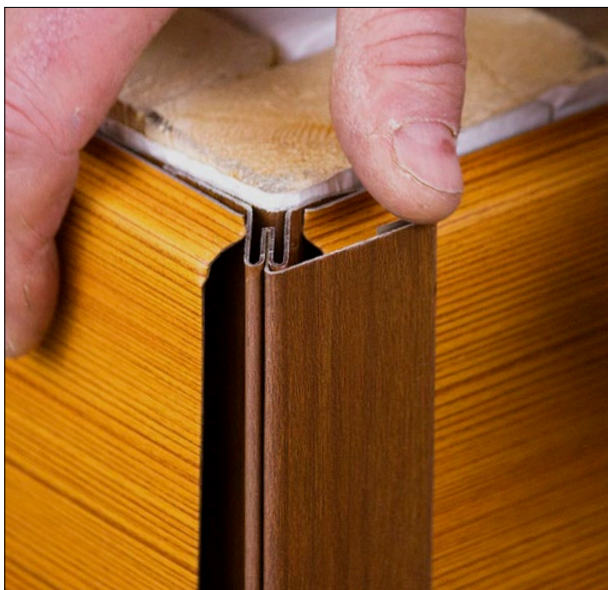

Fig.74
Step 5: Place one end of the Snap T corner in the channel and apply pressure to snap into place (Fig.74).